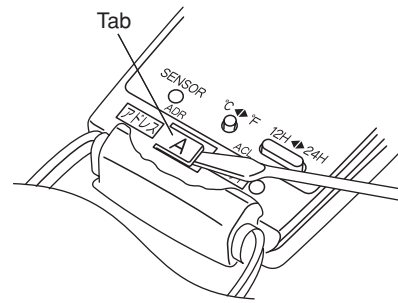
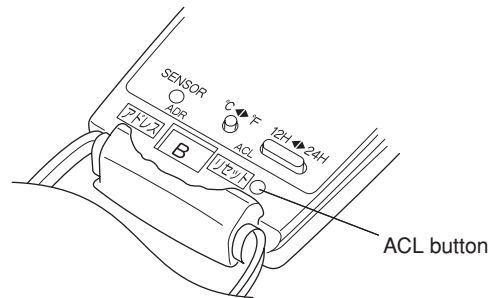

Fig. 62
Fig. 63
- (1) Switch on the power source.
- (2) Break the address-setting tab marked "A" on the second remote controller to change the address (Fig. 62). When the tab is removed, the address is automatically set to B (Fig. 63).
- (3) Press and hold the remote controller ION button and 1 HR TIMER button. At the same time, press the ACL(reset) button. Use a thin object such as the tip of a pen to press the ACL button. When this has been done, "oP-1" (test run) appears, blinking, in the remote controller clock display area.
- (4) Each time the 1 HR TIMER button is pressed, the display changes as shown below. Press this button 2 times to change the display to "oP-7" (address setting).